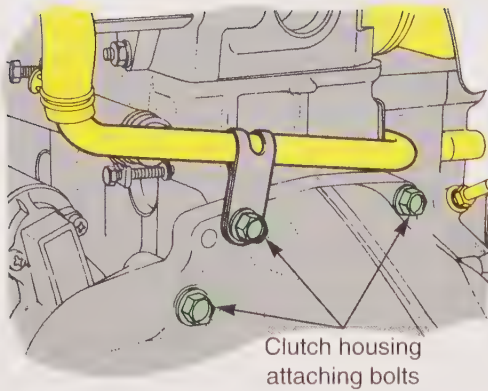

Figure 9-5. As part of the transmission removal procedure, remove the upper bellhousing attaching bolts while the vehicle is still on the ground. (Chrysler)
3. While under the hood, also remove the upper bellhousing attaching bolts (bellhousing-to-engine bolts), if the bellhousing is part of the transmission case. See **Figure 9-5**. In some cases, it may be necessary to install an engine holding fixture to support the weight of the engine once the rear engine mount is removed.